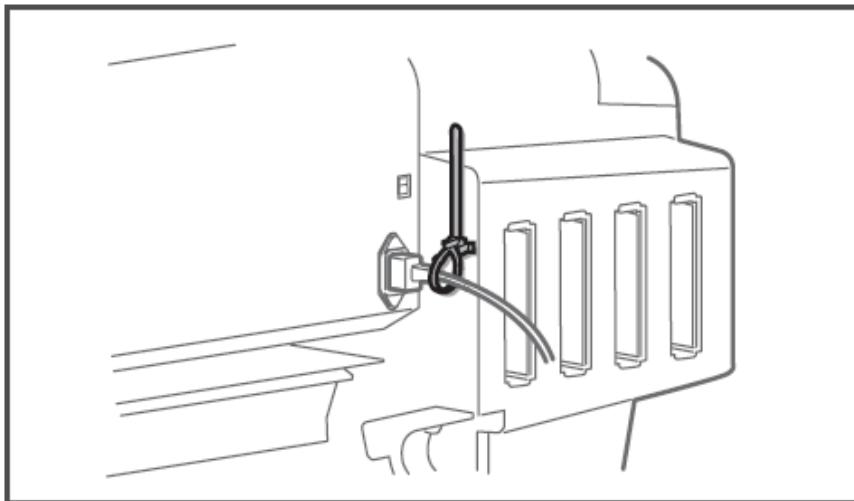

Figure 24
5. Use the tying band to fasten the power cable. See Figure 24.